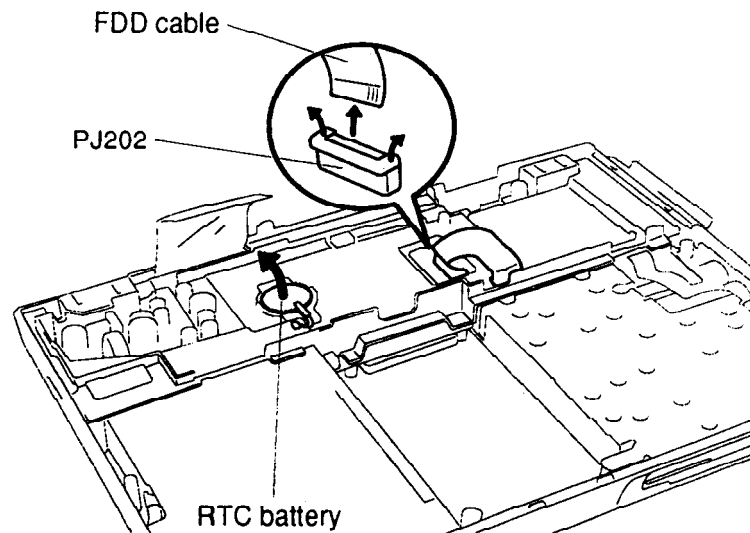

Figure 4-19 Removing the RTC Battery and FDD Cable
To remove the T1900/T1900C's lower system board and RTC battery, follow the steps below and refer to Figures 4-19 through 4-22.
3. Remove the tape and **RTC battery** from the middle frame assembly (Figure 4-19).
4. Disconnect the **FDD cable** from **PJ202** on the lower system board (Figure 4-19).
To install the T1900/T1900C's lower system board and RTC battery, follow the steps below and refer to Figures 4-19 through 4-22.
8. Secure the **two M2.5x10 screws** by the power supply circuits, and connect the **FDD cable** to **PJ202** (Figures 4-19 and 4-20).
10. Set the **RTC battery** in the RTC battery holder on the middle frame assembly and place the tape over the battery (Figure 4-19).